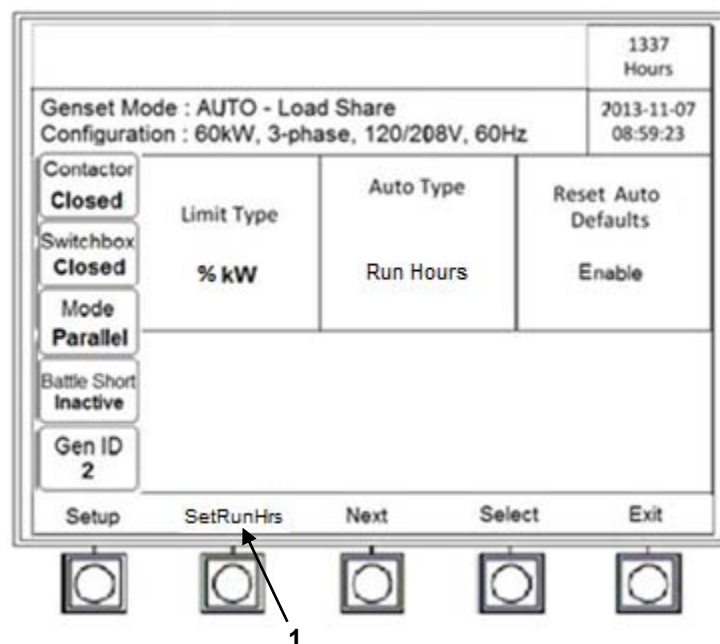

Figure 4-13. Advanced Setup Screen (Run Hours)
ff. Press [SetRunHrs] (figure 4-13, item 1)